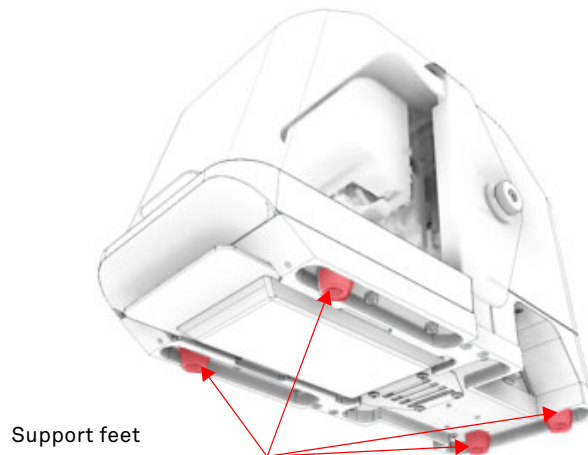

Figure 15 - Machine support feet
- Remove MESSENGER from the box and place it on the work surface, so that it rests on all its feet (Figure 15) (see also paragraph 6.5);
The machine must rest on the surface with all its feet (Figure 15 - Machine support feet).